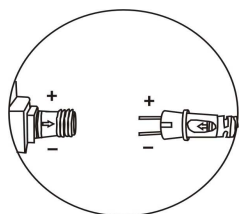

Fig.1
3. Align the notch in fitting with the inner tab on end of Power Supply (Fig. 1)